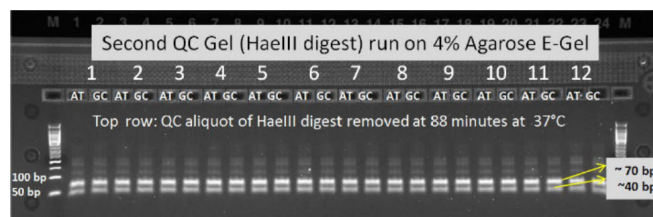

Figure 8 Example of a successful Second QC Gel.
**Note:** After 15 minutes, return to the E-Base™ device to inspect and capture an image of the gel. The HAEIII product sample wells should have a predominant pattern of double bands at 40 bp and 70 bp. These double bands indicate that the 2nd PCR reaction and the HaellI digestion were successful. (Figure 8.)